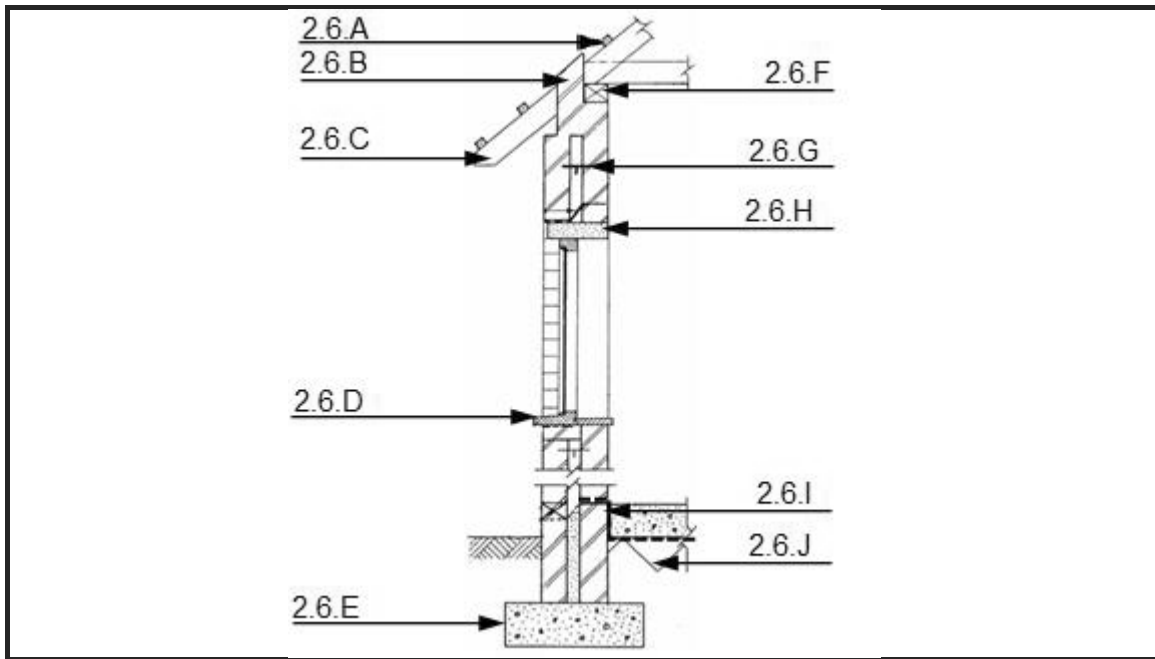

FIGURE 2.6
2.6 Answer the following questions with regard to the elevation in FIGURE 2.6.